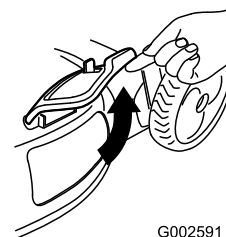

Figure 29
2. Lift open the side discharge door (Figure 29).